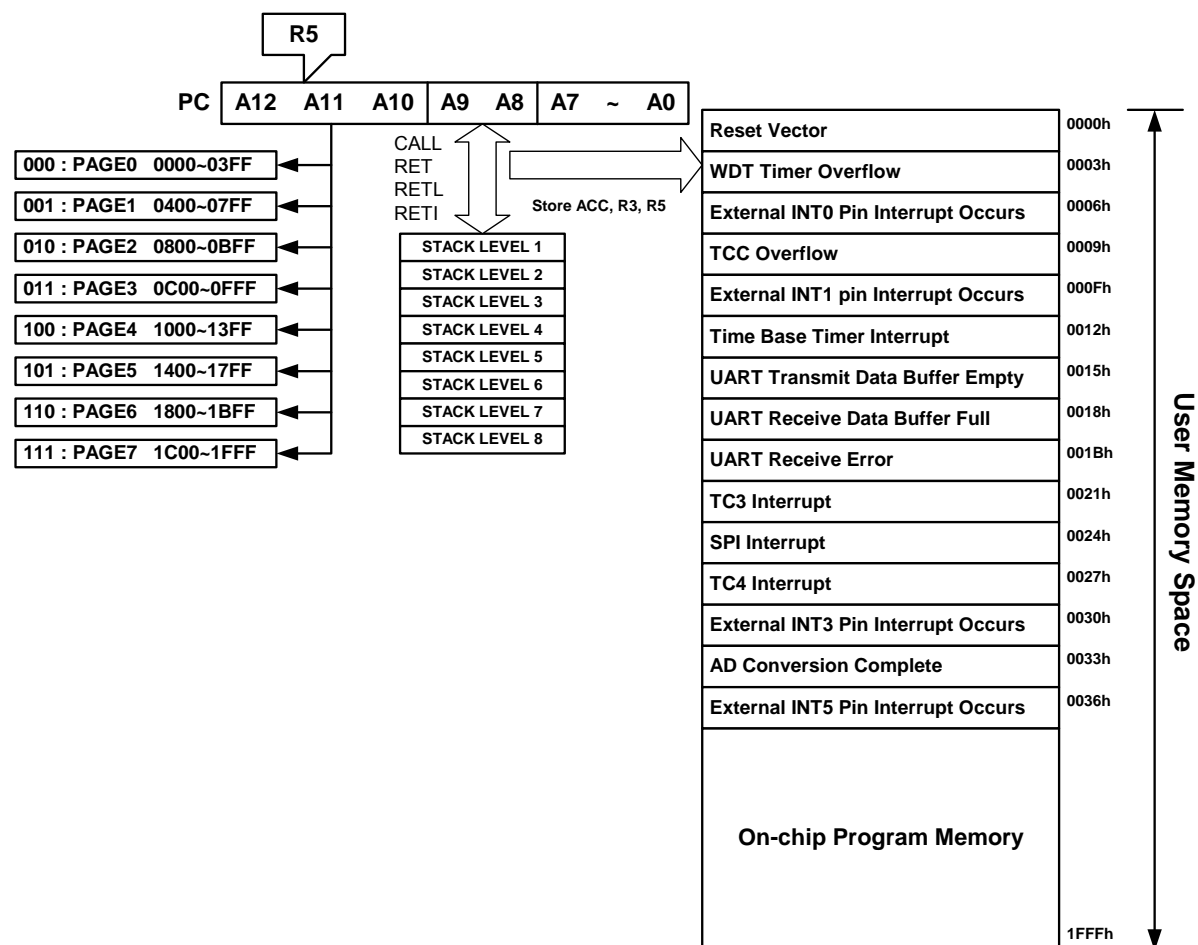

Fig. 4. Program Counter Organization
- ✧ Depending on the device type, R2 and hardware stack are 10-bit wide. The structure is depicted in Fig.4.